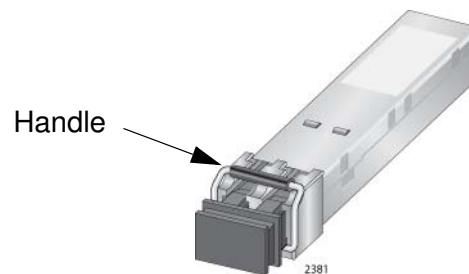

Figure 83. Handle on SFP Transceiver
3. To install the transceiver in an SFP slot on the top row of the line card, orient the transceiver with the handle on top, as shown in Figure 83. To install it into a slot on the bottom row of the line card, orient it with the handle on the bottom.